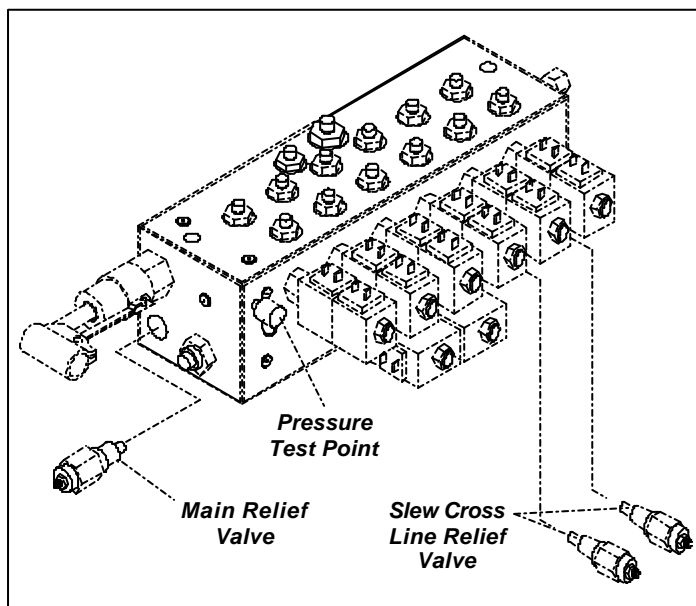

Figure 4-3: Manifold Block
4.5 Setting Hydraulic Pressures (Figure 4-3)
MAIN RELIEF VALVE (Figure 4-3,4)